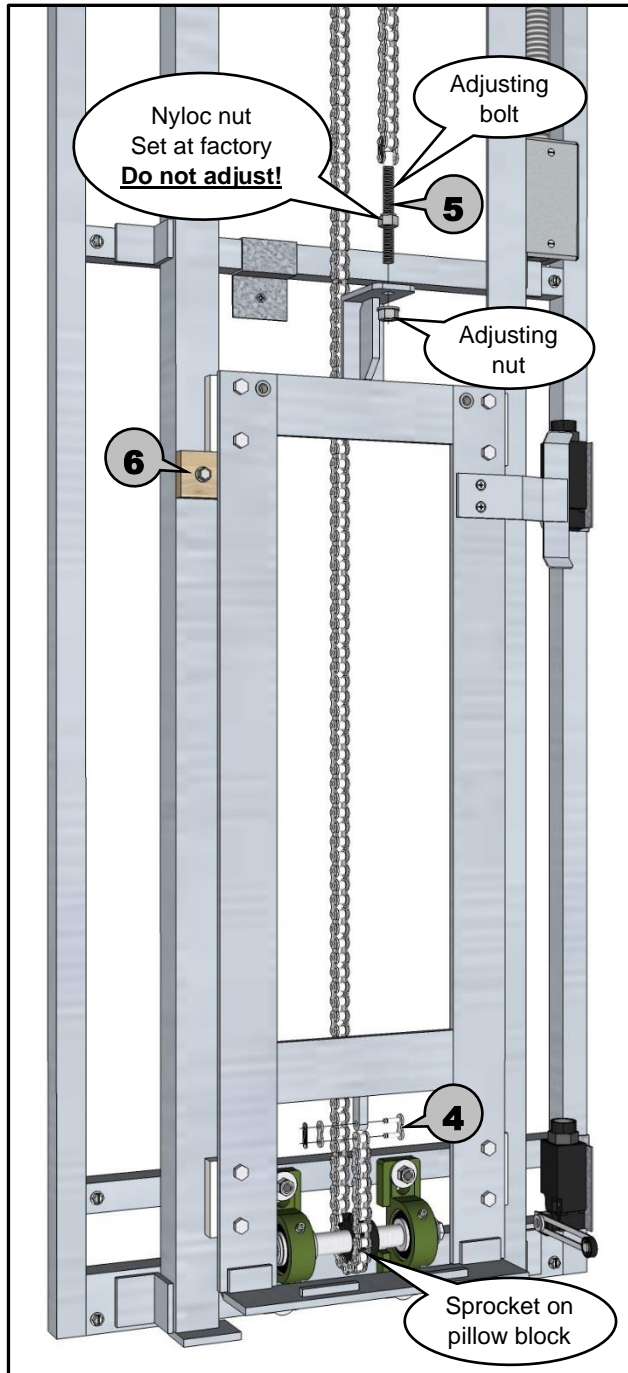

Figure 17
- 4** One end of the chain should hang down behind the trolley and be placed around sprocket on the pillow block. Then use provided master link, attached near the bottom of the trolley with a plastic tie, to connect chain to bottom end of trolley. (see Figure 17)
- 5** The other end of the chain with the adjusting bolt should hang down near the top of the trolley. Insert the threaded adjusting bolt, on the end of the chain, into the hole on the top of the trolley where the adjusting nut is tied on, and use the adjusting nut to secure the adjusting bolt to the trolley. Use a blade screwdriver or needle nose pliers to hold chain from twisting and tighten adjusting nut until Nyloc nut is tightly seated against trolley. **Do not adjust Nyloc!** (see Figure 17)
- 6** Some machines will have a trolley stop screwed to the track for shipping purposes, and it should be removed at this time. (see Figure 17)